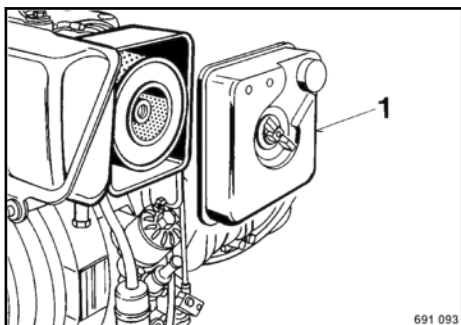

Fig. 76
Unscrew the wing nut for cover (1) ↗ Fig. 76 and take off the cover.